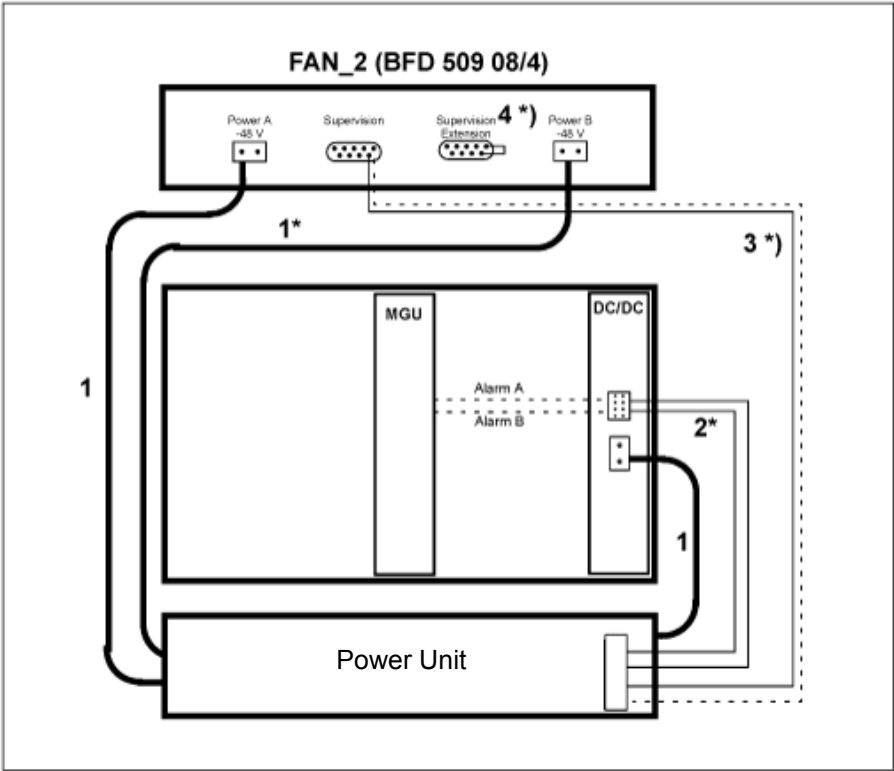

Figure 13: Single cables to the Fan Unit BFD50908/4 and to 7U chassis
Single Cables: Connect the Power to the fan unit using cable 51305286, 5 meter long or 51305287, 12 meters long, see item (1) in Fig. see Figure 13: Single cables to the Fan Unit BFD50908/4 and to 7U chassis on page 21.
Single Cables: Connect the -48V power to the DC/DC-board using cable 51305286, 5 meter long or 51305287, 12 meters long, see item (1) in Fig. see Figure 13: Single cables to the Fan Unit BFD50908/4 and to 7U chassis on page 21.